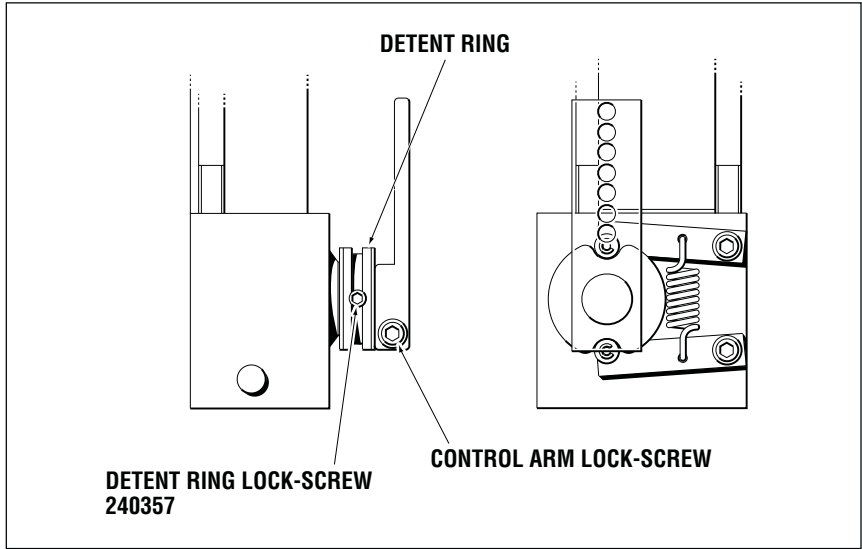

Figure 8. Detent Ring Location.
- 4 Loosen the set screw in the detent ring on the clutch slave and rotate the detent ring to the full detent position. To locate the detent ring, see Figure 8.